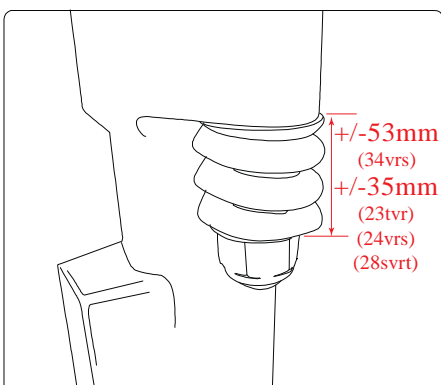

FIG1
9. Check side rod bolts and springs (FIG1) if over the specified dimension of 53mm then tighten accordingly (FIG2) remeasure (FIG3)